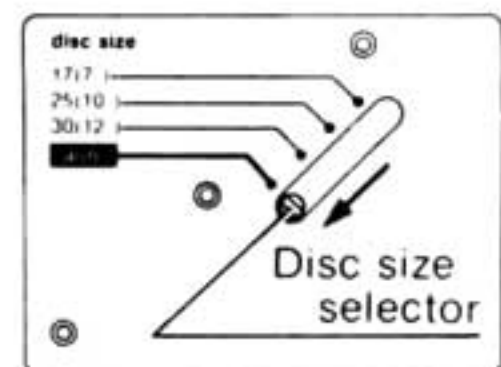

Fig. 7
9. Set the disc size selector knob back to the **auto** position. (See Fig. 7.)